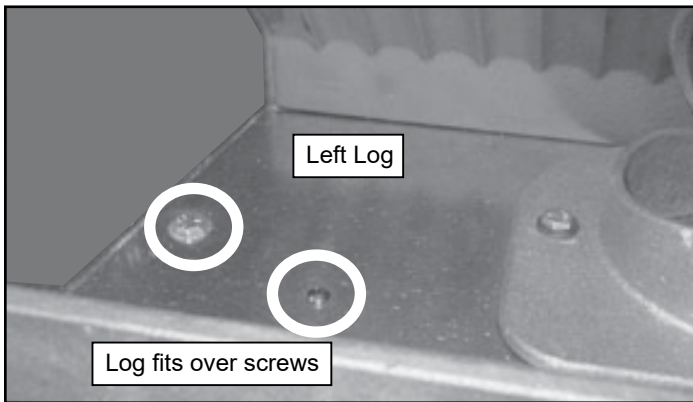
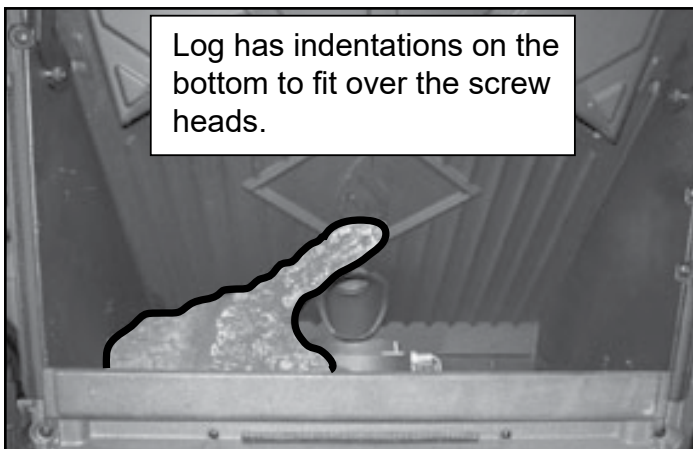

Figure 21.1
Figure 21.2
1. Place the left log as shown. There are 2 indentations in the bottom of the log to fit over the screw heads in the firebox (**Figures 21.1 and Figure 21.2**).